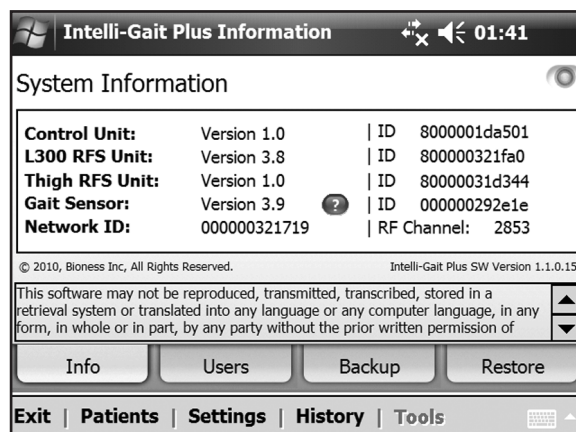

Figure 7-38: **System** Information window, L300 Plus Control Unit connected.
2. Press the **Tools** Menu and the **Info** tab. See Figure 7-38.